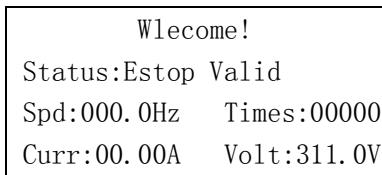

Fig4-8
6. The limit setting finish , release the emergency stop push button , if the controller is set in automatic mode , the door will close after the delay closing setting time , shown as Figure 4-8.